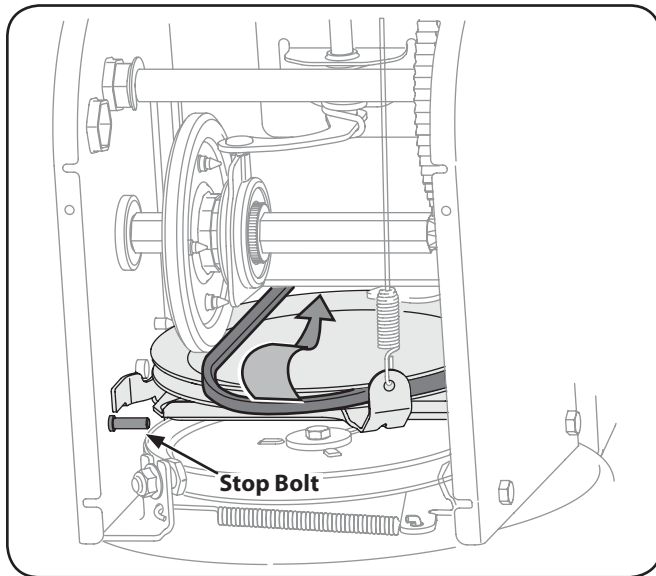

Fig. 7-7
- Back out the stop bolt to increase the clearance between the friction wheel disc and friction wheel. See Fig. 7-7.
- Slip the drive belt off the pulley and between friction wheel and friction wheel disc. See Fig. 7-7.